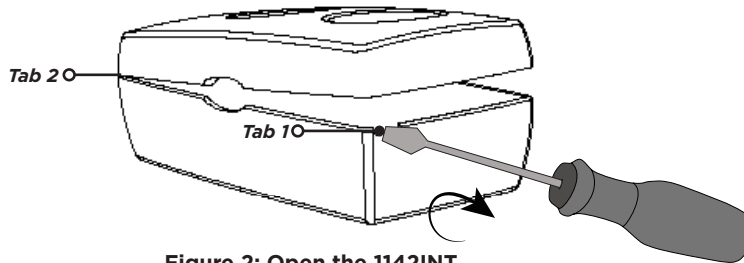

Figure 2: Open the 1142INT
1. Insert the screwdriver in Tab 1 and twist it clockwise as seen in Figure 2.
3. Align the top housing and LED cut-out with the base housing and LED cut-out and snap into place. See Figure 2.